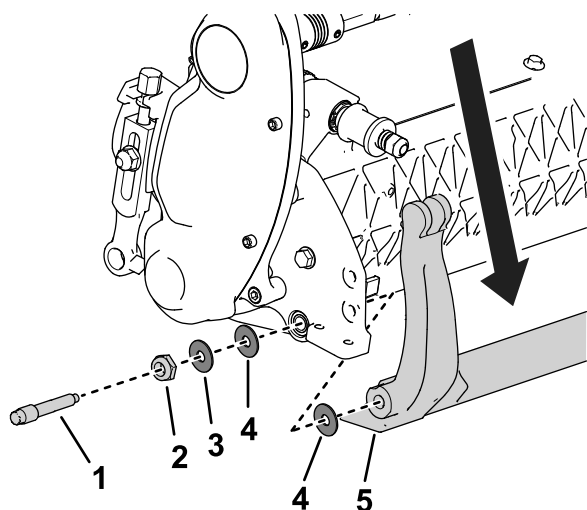

Figure 20
3. On each side of the machine, loosen the locknut shown in Figure 20.
4. Remove each bedbar bolt, allowing the bedbar to be pulled downward and removed from the cutting unit (Figure 20).
Account for the 2 plastic washers and 1 steel washer on each end of the bedbar (Figure 20).